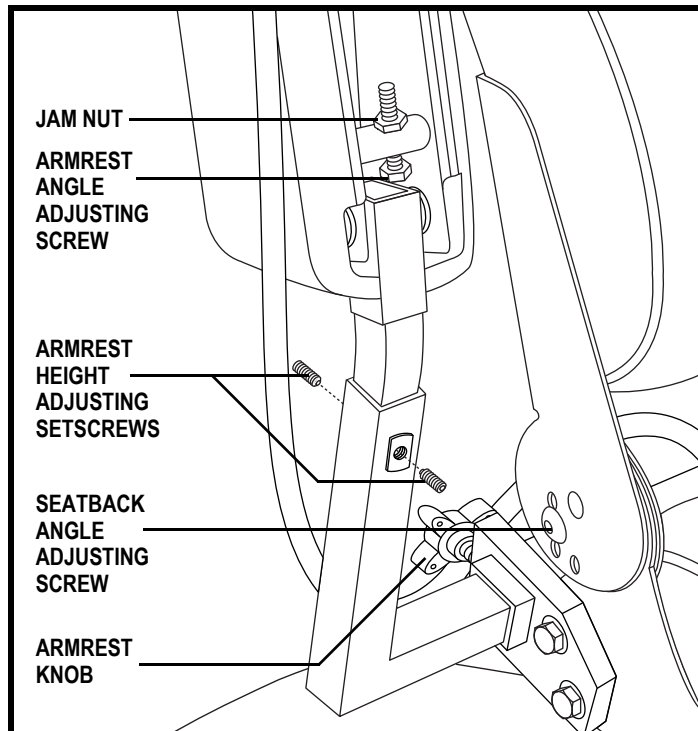

Figure 16. Seatback and Armrest Adjustments
1. Remove the seatback angle adjustment screws on both seat hinges. **See figure 16.**
1. Locate the two armrest knobs on each side of the armrest receiver bracket. **See figure 16.**
2. Raise or lower the armrest to the desired height. **See figure 16.**
2. Loosen the jam nut. **See figure 16.**
4. Turn the adjustment screw to raise the front of the armrest or to lower the front of the armrest. **See figure 16.**